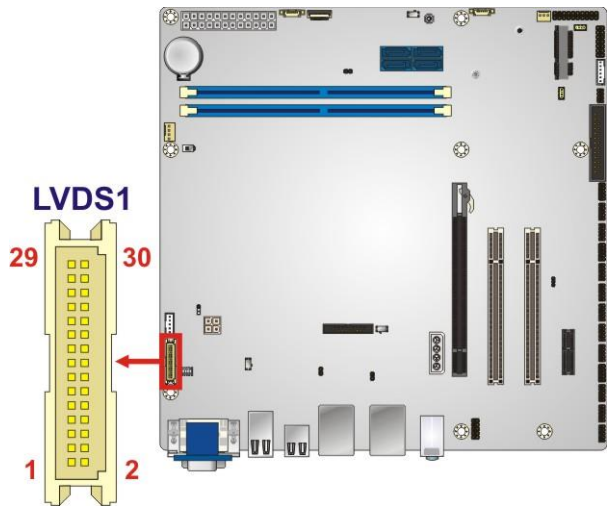

Figure 3-19: LVDS Connector Location
- CN Location: See **Figure 3-19**